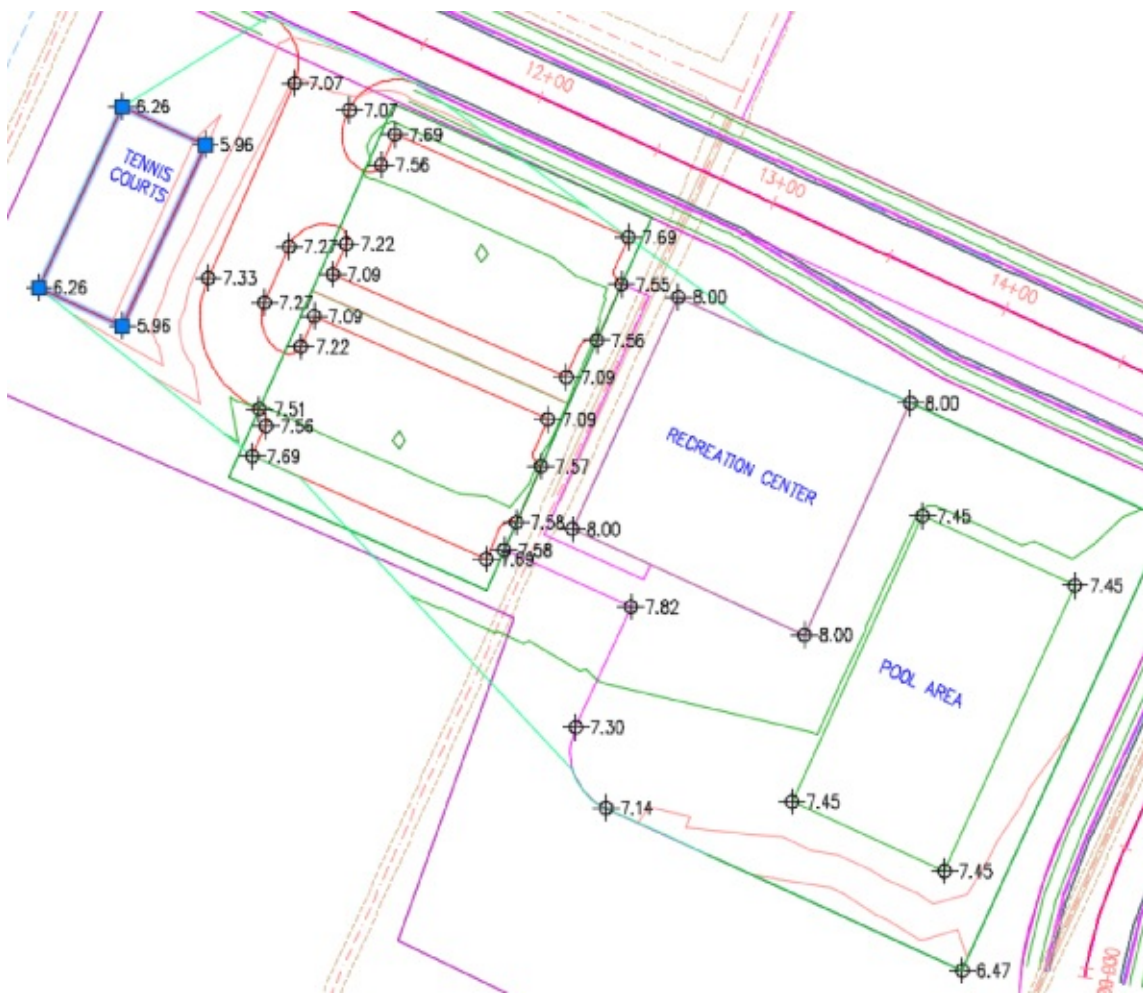

Figure 14.40 Finished grade surface model with dynamic elevation labels
- Your drawing should look something like Figure 14.40.